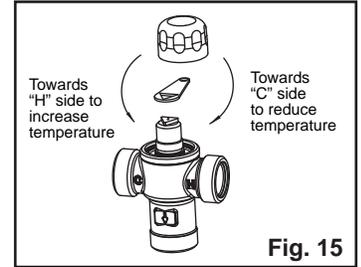

Fig. 15
- 4C** **Thermostatic Mixing Valve** (Fig. 15) To adjust the mixed outlet temperature of the valve, remove the cap to gain access to the adjusting spindle. The spindle should be rotated towards the "C" side to reduce the temperature and towards the "H" side to increase the temperature - until the desired set point is reached.